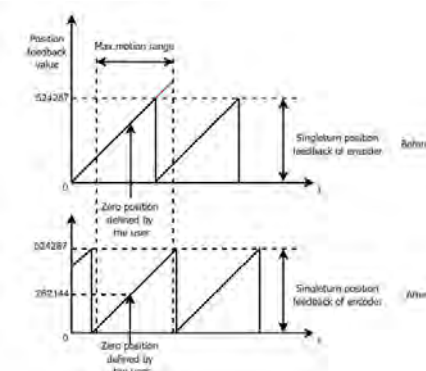

Figure 9-4 Comparison Figures of Before/After Zero Position Calibration of Single-Turn eRob
Due to the installation method, when the singleturn rotary actuator operates with the zero position defined by the user and reaches the maximum motion range, the position feedback value may exceed the boundary value (0 or 524287). The user can set the zero position to 262144 by using zero position calibration function thereby ensuring the maximum motion range the single-turn eRob rotary actuator is $-175^{\circ}\sim 175^{\circ}$ and the position feedback value is within the singleturn position range as shown in Figure 9-4.
***2** The correct reset operation is shown in Figure 9-4. Connect to eTunner, open “Encoder” interface and click “Reset Load Encoder”.